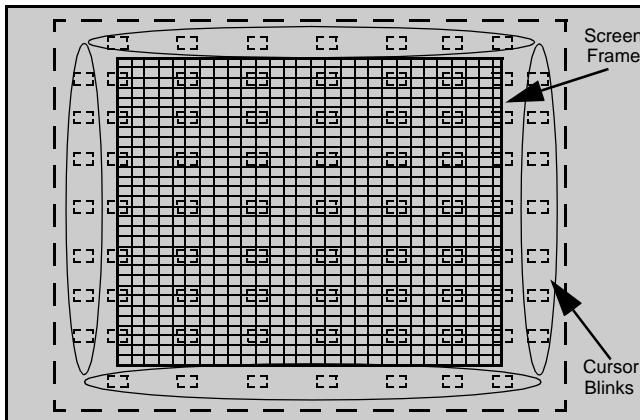

Figure 48. POINT & ORIG. POINT cursor positions
14. "POINT" mode allows to move line horizontally and vertically from the perimeter of cursor making rounded lines become straight (See Figure 48)
16. When the cursor is located in the outer area of the border the cursor starts to blink from one side to other and the adjustment is for the non-visible area (inside the ovals area, see Figure 48); This applies to "LINE", "POINT" & "ORIGIN. POINT" modes.